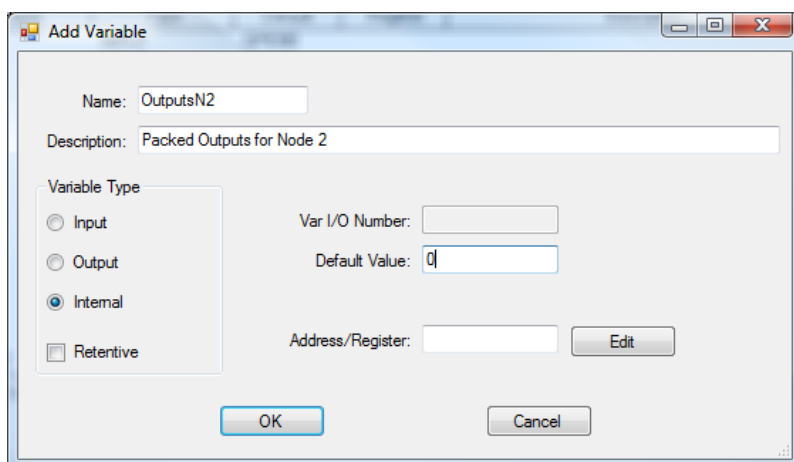

Figure 2-15 - Add Variable Dialog
2. Click the **ADD** button. The *Add Variable* dialog will open. Enter a name for the variable. This should be something useful. For example, the outputs register for Expander ID 2 could be *OutputsN2*. You may enter a description for further explanation. Refer to Figure 2-15.